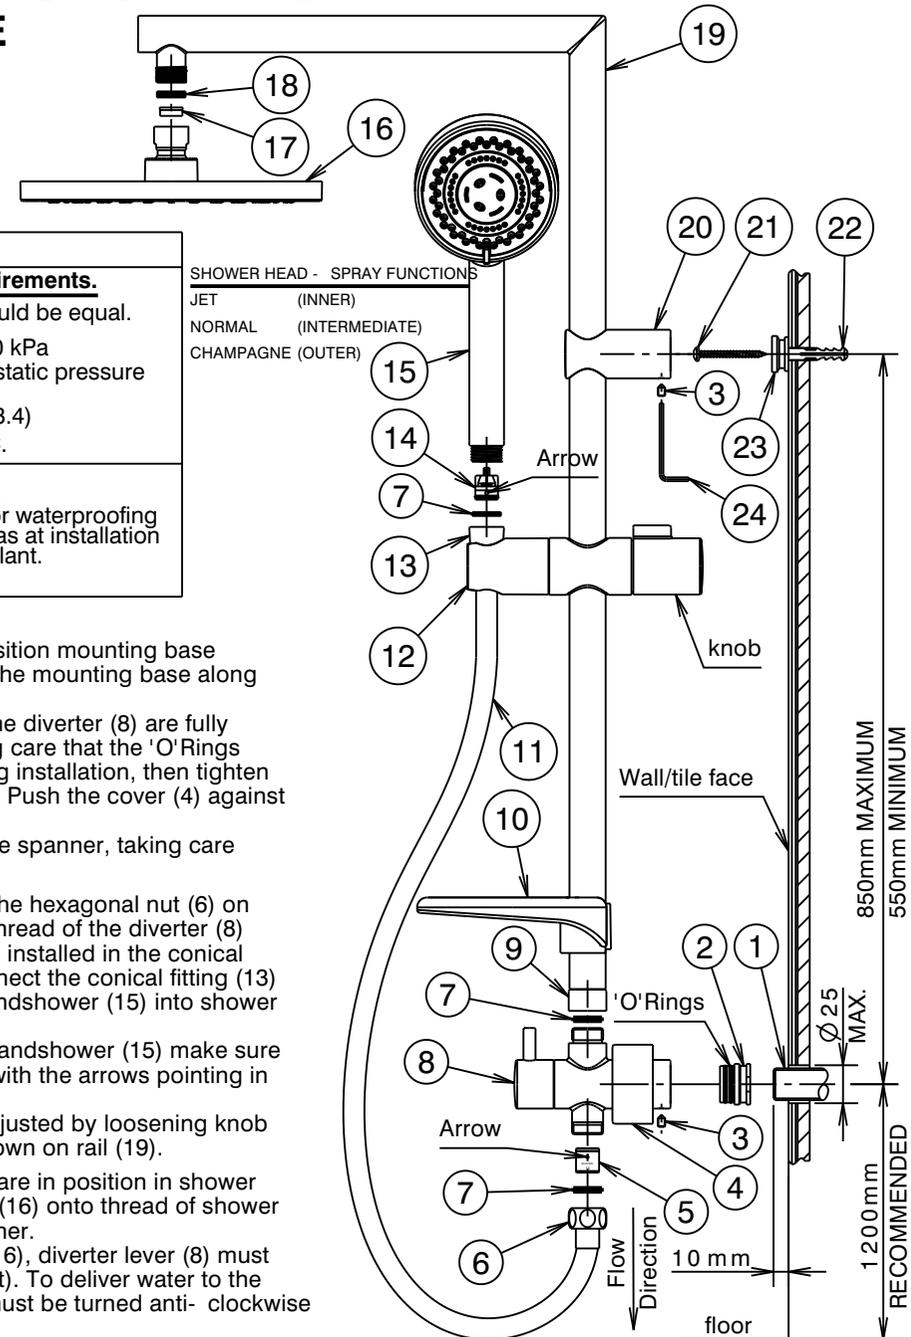

Fig. 1
- 2) Screw spigot (2) onto threaded nipple (1) using a 10mm allen key or suitable spanner until bottomed against wall/tile face. **DO NOT OVERTIGHTEN.** Apply suitable lubricant to 'O'Rings on spigot (2).
- 3) Mark the position for the shower rail mounting base (20) at a suitable distance from the threaded nipple (1). (Fig 1.)
- ii) Insert rounded end of wall plug (22) into drilled hole and tap until flush with surface.